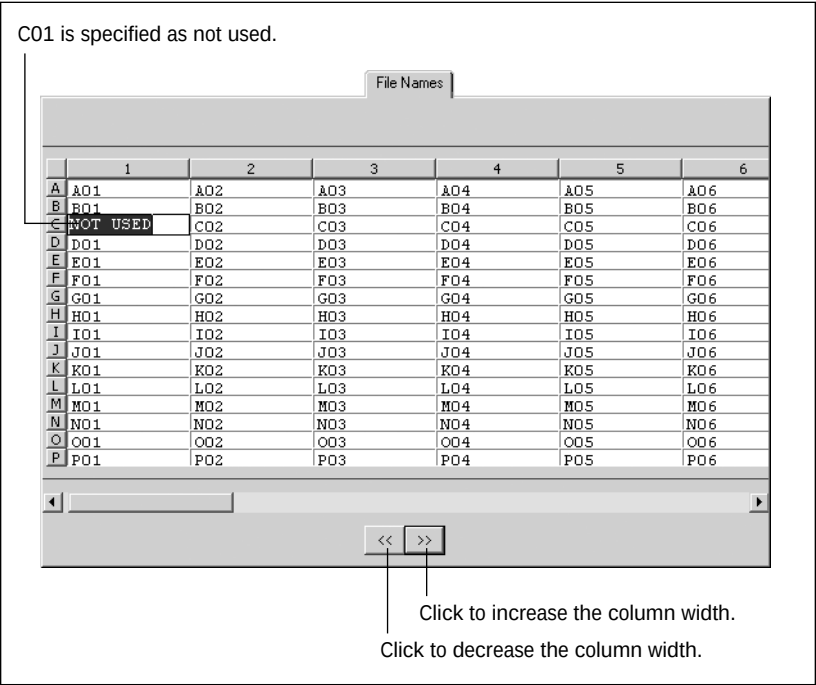

Figure 12-3. The File Names tab of the Plate Set Setup window.
1. In the **File Names** tab of the Plate Set Setup window (figure 12-3), adjust the width of the column that includes the unused well. To increase the column width, click the **RIGHT ARROW** key in the File Names tab. To decrease the column width, click the **LEFT ARROW** key in the File Names tab.